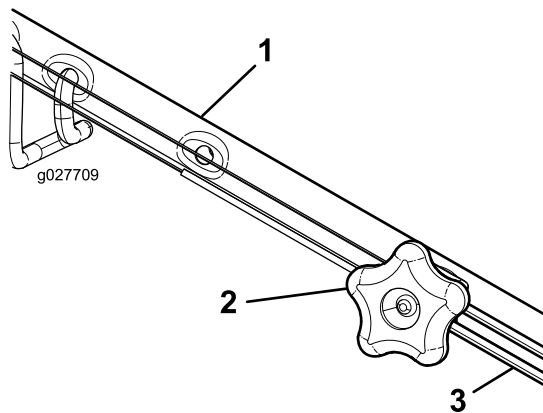

Figure 28
- Turn the adjustment knob counterclockwise to loosen the cable adjustment (Figure 28).
- Adjust the tension on the cable (Figure 28) by pulling it back or pushing it forward and holding that position.